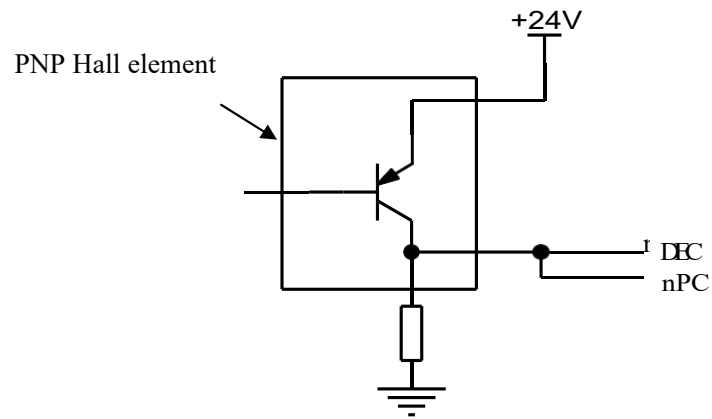

Fig. 2-10 Wiring by a PNP Hall element
c) The wiring of PNP Hall elements taken as both DEC signal and zero signal is shown in Fig. 2-10: